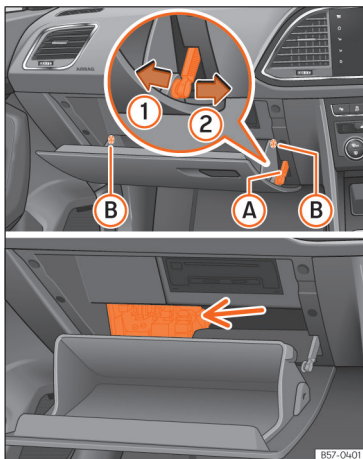

Fig. 202 Right-hand drive vehicles: fuse box cover under the passenger side dash panel.
- Undo the opening limiter »» Fig. 202 A in two steps: first, unlock the limiter by pulling back on it (arrow ①) and then move it gently to the right (arrow ②). Remove the guide when the cover is in the normal opening position [30°].